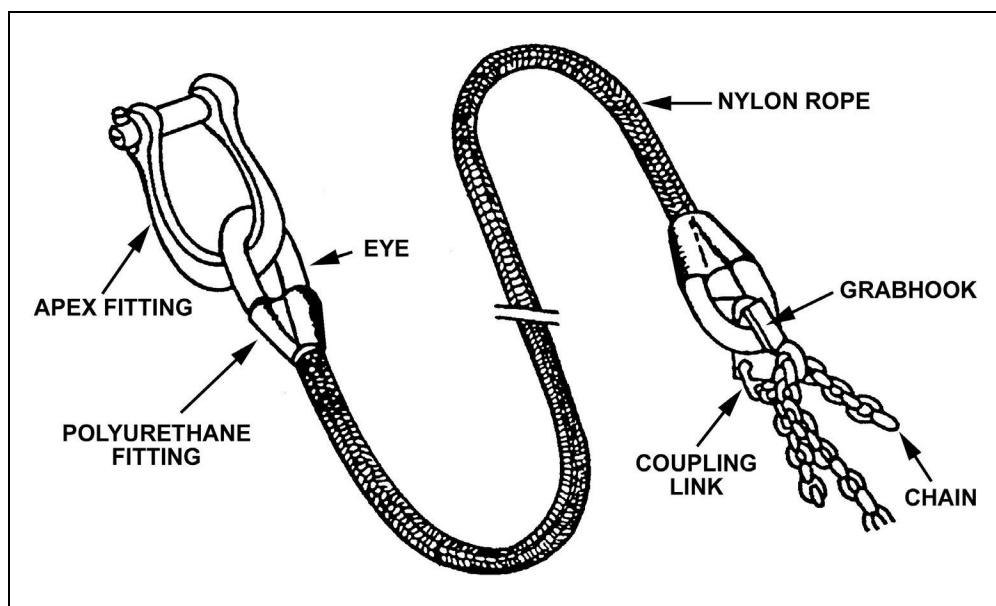
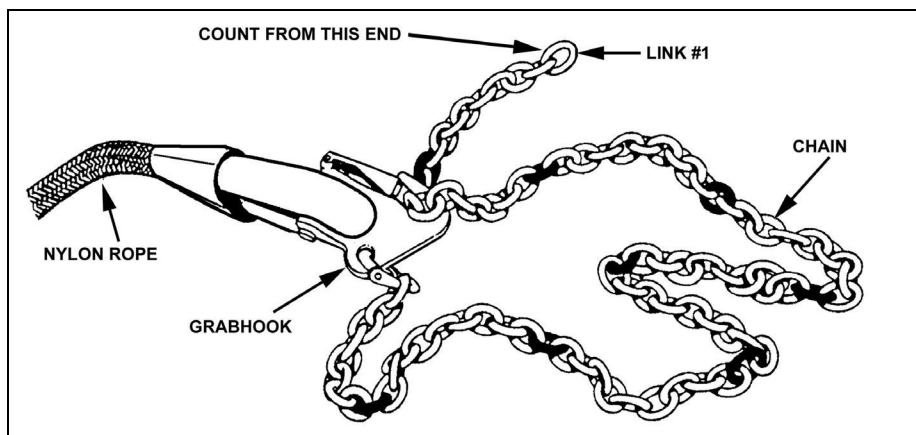
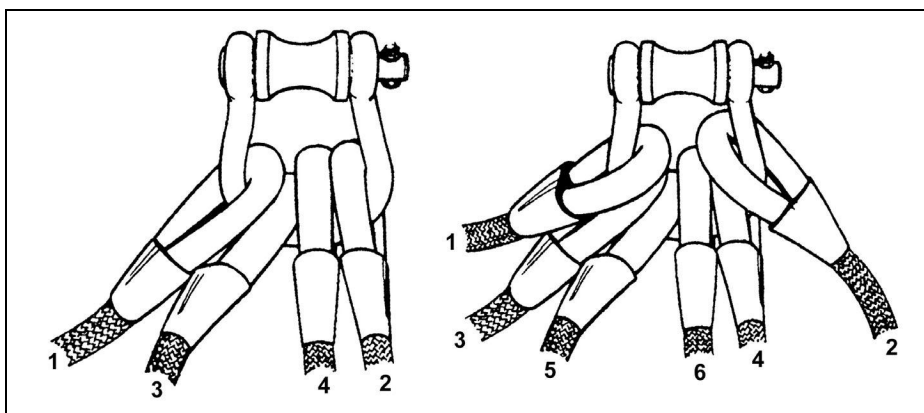
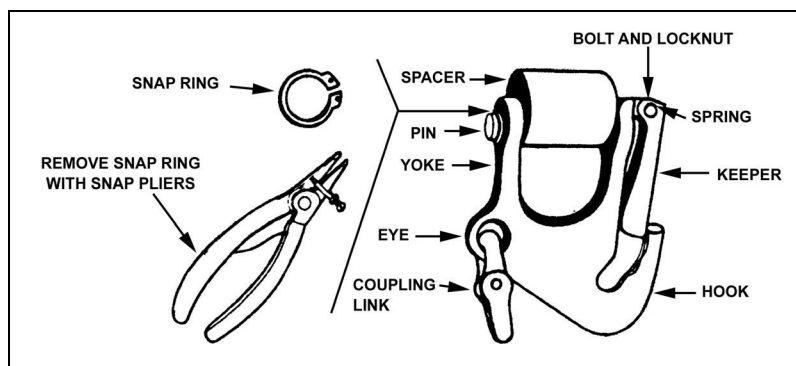

Figure 5-9. 25,000-pound capacity sling set.
Figure 5-10. Coupling link.
Figure 5-11. Sling leg-numbering sequence.
Figure 5-12. Grabhook.
e. **Large-Capacity Sling Sets.** The new 10,000-pound and 25,000-pound capacity sling sets are similar, except for a few minor differences. All components have identifying marks. You may only exchange apex fittings between sets. Take care not to mix up the other components. Table 5-3 compares these two large-capacity sling sets. Figure 5-9 shows one.
A polyurethane fitting covers the eye to protect the leg from abrasion and ultraviolet radiation (Figure 5-9). Each double-braided rope connects to a grabhook assembly. Figure 5-10, Figure 5-11, and Figure 5-12 show a coupling link, sling leg-numbering sequence, and a grabhook, respectively. Though the grabhooks for the two sets look alike, you cannot interchange them, because they have different ratings.